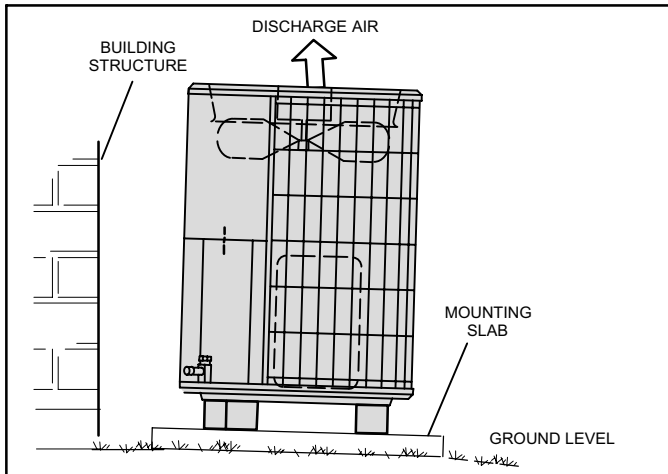

**Figure 8. Outside Unit Placement**
- When possible, do not install the unit directly outside a window. Glass has a very high level of sound transmission. For proper placement of unit in relation to a window see the provided illustration in figure 8.